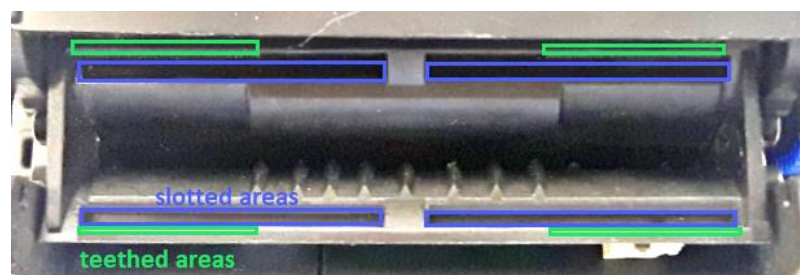

Figure 10
2. Note that the paper guide has four tabs that are intended to engage the printer. Two tabs are at the end of the arms, and two tabs are near the slotted “funnel”. Locate the slotted area at the back of the printer (→ Fig. 10). Position the tabs on the funnel end in the middle of the slotted area of the side in which you will mount them, making sure to be clear of the gear teeth molded into the printer, then press down until these two tabs snap into place.